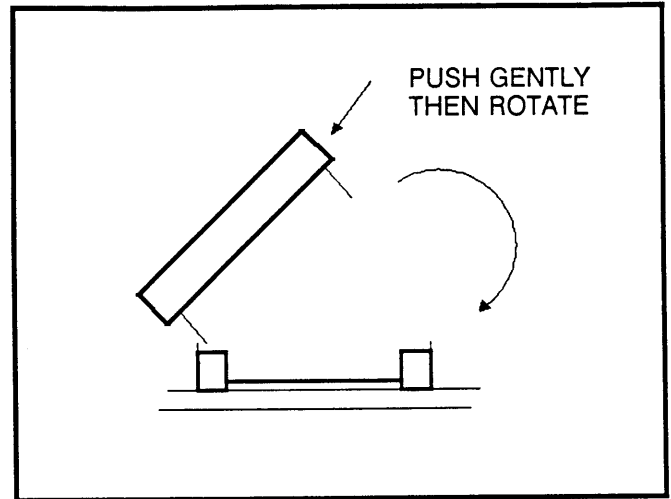

Figure D-2: Seating Chip in Socket
- iii) Very gently press the legs against the side of the socket so the legs on the right side will insert easily. (See **Figure D-2**)